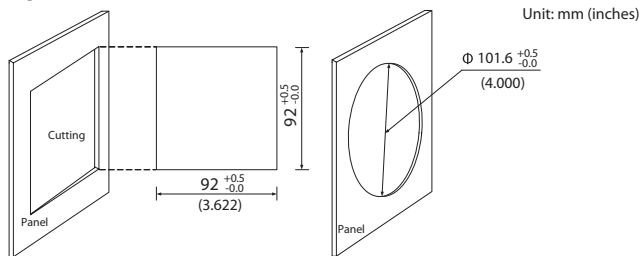

Fig 2-4 Panel cutting
1. Cut a square or round hole on the panel of the switch gear. The cutting size shows as Fig 2-4.